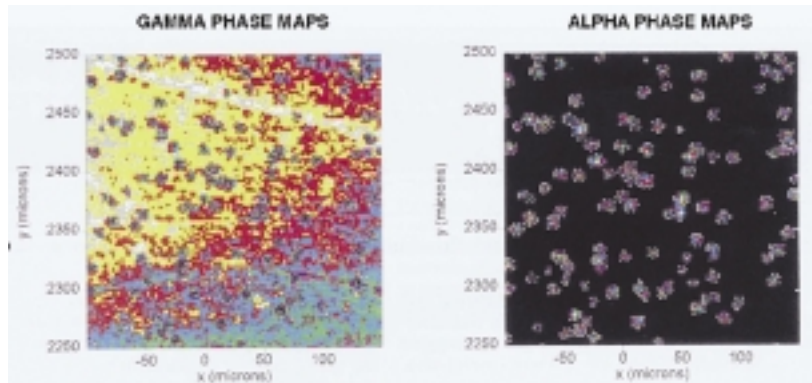
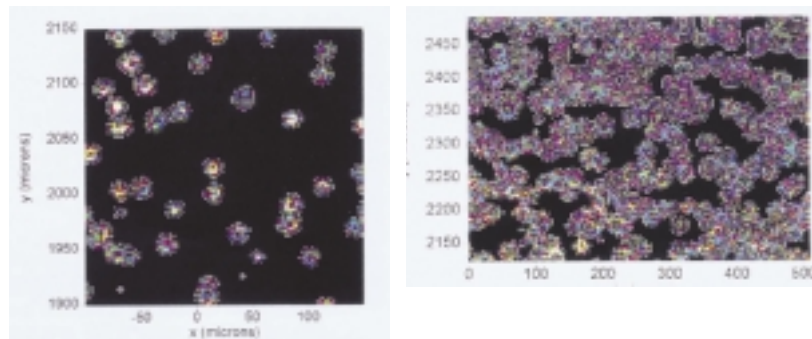

Figure 2 Alpha (R) and gamma phase (L) after 15 min at 1100 °C.
Figure 3 Growth of alpha stage at (L) 30 min and (R) 60 min.
Using a multichannel detector, multiple spectra are collected simultaneously. The data are plotted as pseudo-colored maps, with sequential colors corresponding to changing spectral intensity. *Figure 2* demonstrates the complementary nature of the two Raman maps: The alpha phase (R) nucleates at discrete points within the continuous gamma phase (L). Over time, the alpha phase grows at the expense of the gamma polymorph (*Figure 3*).